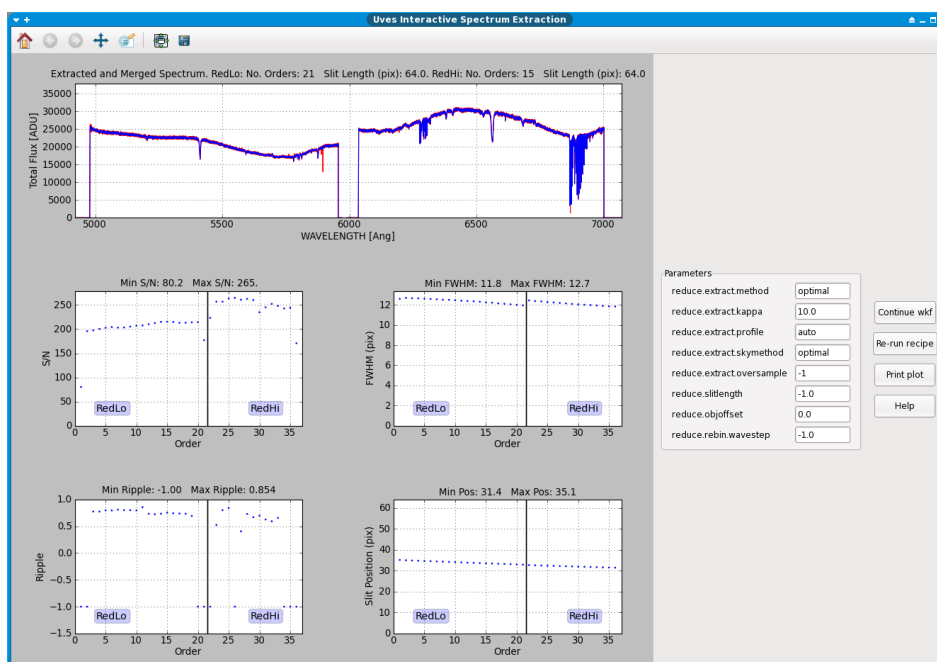

Figure 6.0.7: The interactive window for the Spectrum Extraction actor for the first LoSO in the data supplied with Reflex 1.1.
14. **Spectrum Extraction:** In Figure 6.0.7, we show the interactive window associated with the `Spectrum Extraction` actor, which executes the UVES pipeline recipe `uves_obs_scired`. This pipeline recipe performs the extraction of the science object spectrum using optimal extraction (Horne 1986), automatically selecting an analytical spatial profile (Gaussian or Moffat) in the case of low S/N spectra ($S/N < 10$) or an oversampled empirical spatial profile otherwise, and automatically determining the degrees of the low-order polynomials involved in the extraction process. The top plot in the interactive window shows the extracted and merged spectrum of the science object (blue), and the plot below this shows the flux-calibrated version. Error bars on the spectrum are plotted as 1-sigma limits in red.